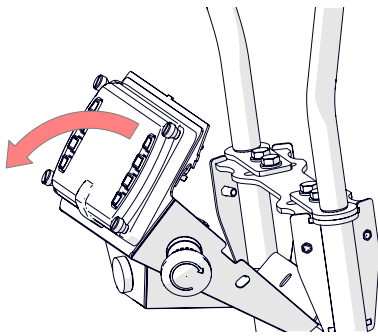

Fig.12E - Gently lower the whole console cover, supported by the electrical wires (wiring not shown).
4. Locate the bottom console cover. Remove the 2 x M5 screws from each side [slotted screwdriver] (Fig.12D). Gently lower the top console cover (with display screen and wiring), and rest using the electrical wiring as support (Fig.12E).